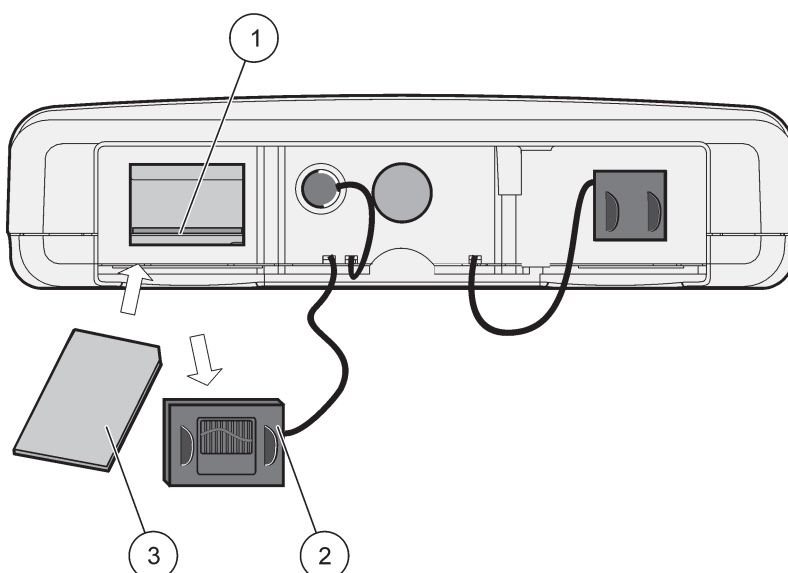

Figure 36 Insert the storage card to the display module
1. Remove the storage card cover at the display module. Refer to Figure 36.